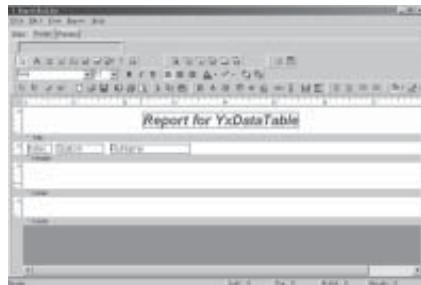

Fig. 8-14 Design the Head of the Report
3.2 Design the Head of the Report. For example, as in Fig. 8-14, set the **labels** such as Index, Station, FAB Name and so on.